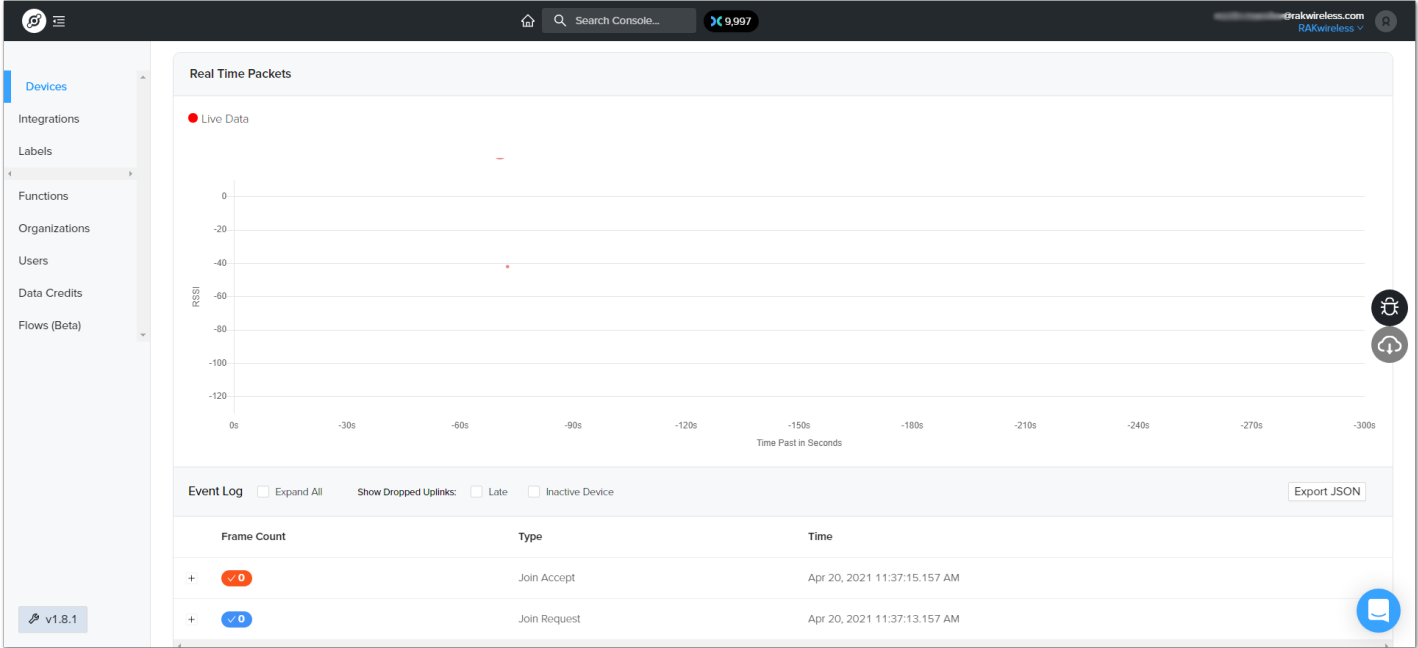

Figure 53: Helium console live device data
3. After you fill in the information, click **Create application**. If everything is filled in correctly, you will see the same page, as shown in Figure 53.